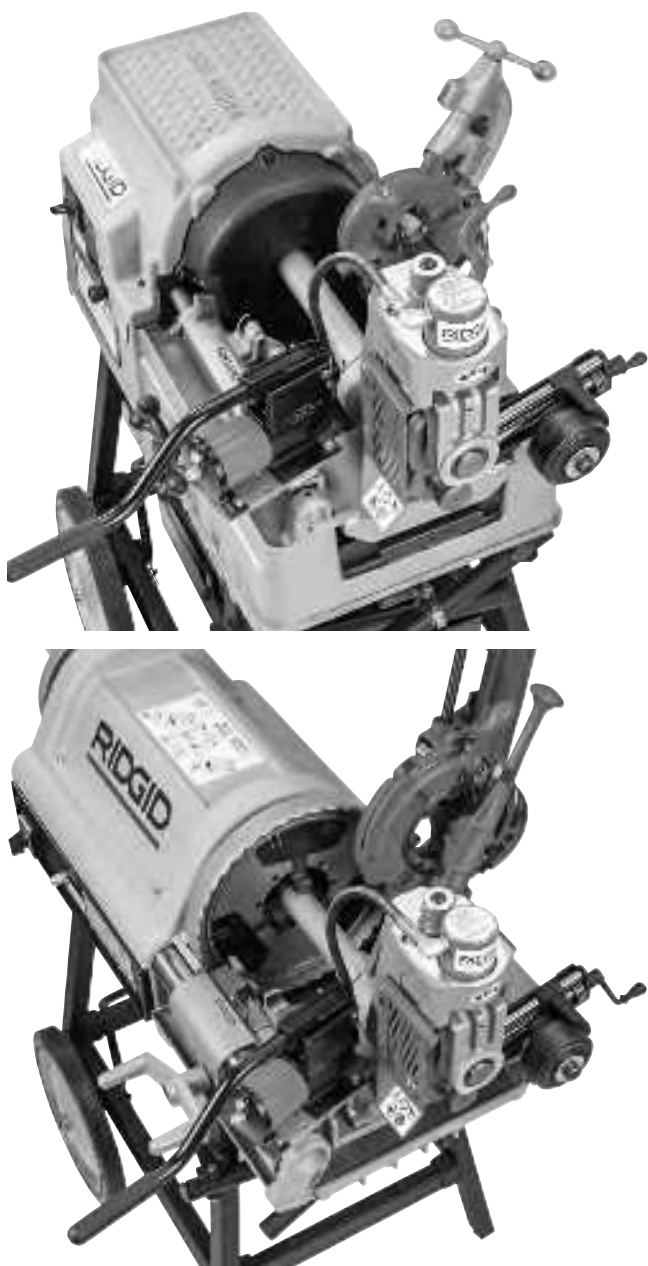

Figure 10 – 918 installed on 535A and 1224
5. With the 918 positioned at the end of the threading machine securely tighten the machine front chuck on the drive bar. *See Figure 10.*